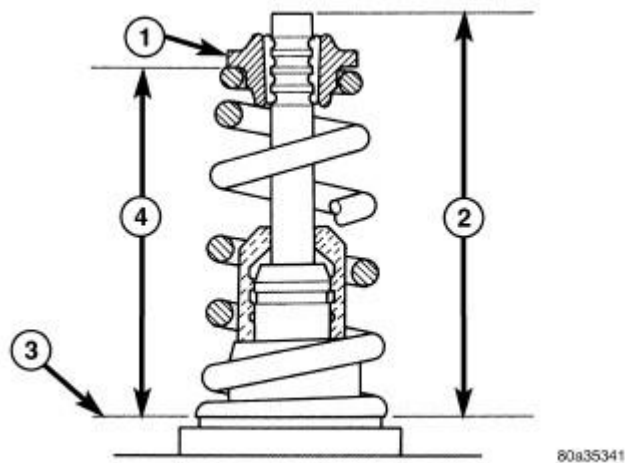

Fig. 91: Checking Valve & Spring Installed Height
- After grinding the valve seats or faces, install the valve in cylinder head and check valve installed height by measuring from valve tip to spring seat. Refer to **Fig. 91**. Remove valve from cylinder head and grind valve tip until within specifications. Check valve tip for scoring. The tip chamfer should be reground (if necessary) to prevent seal damage when the valve is installed.
- Check the valve spring installed height after refacing the valve and seat. Refer to **Fig. 91**.
If valves and/or seats are reground, measure the installed height of springs, make sure measurements are taken from top of spring seat to the bottom surface of spring retainer. Refer to **Fig. 91**. If height is greater than specifications, install a 0.794 mm (0.0312 in.) spacer in head counterbore to bring spring height back within specifications.